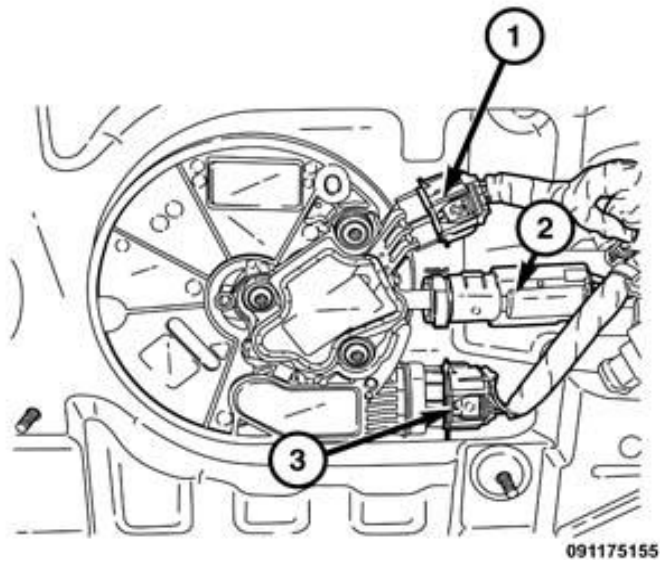

Fig. 7 DEF Pump
13. Disconnect the DEF pump wire harness connector (1), supply line (2). Refer to the detailed service procedures available in DealerCONNECT> TechCONNECT > 25 - Emissions Control/Diesel Exhaust Fluid Emissions/FITTING, Quick Connect/Standard Procedure) and level sensor/heater wire harness connector (3) (Fig. 7).